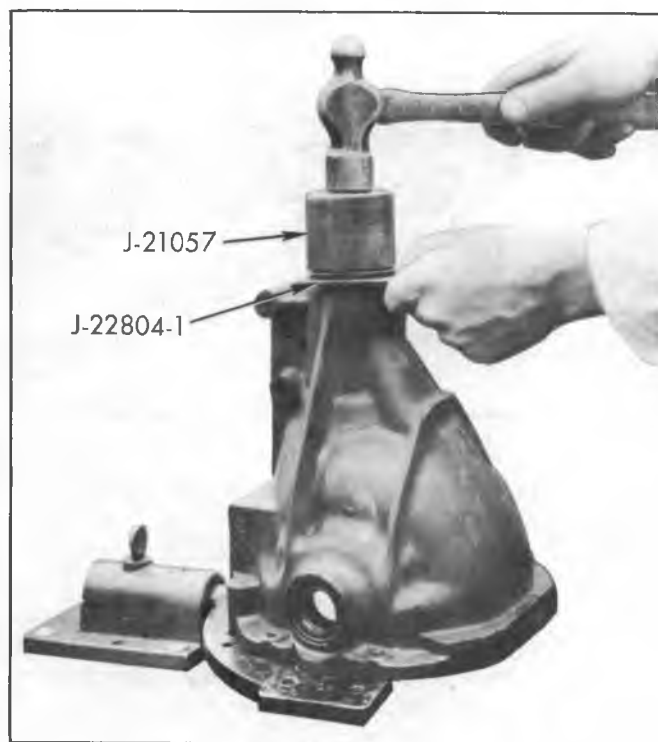

Fig. 18C--Installing Pinion Seal
5. Using tool J-21057 as shown in Figure 18C, press seal into carrier bore until gauge plate is flush with the carrier shoulder and seal flange. Turn gauge plate 180 degrees from installed position; seal must be square in carrier bore to seal properly against pinion flange.